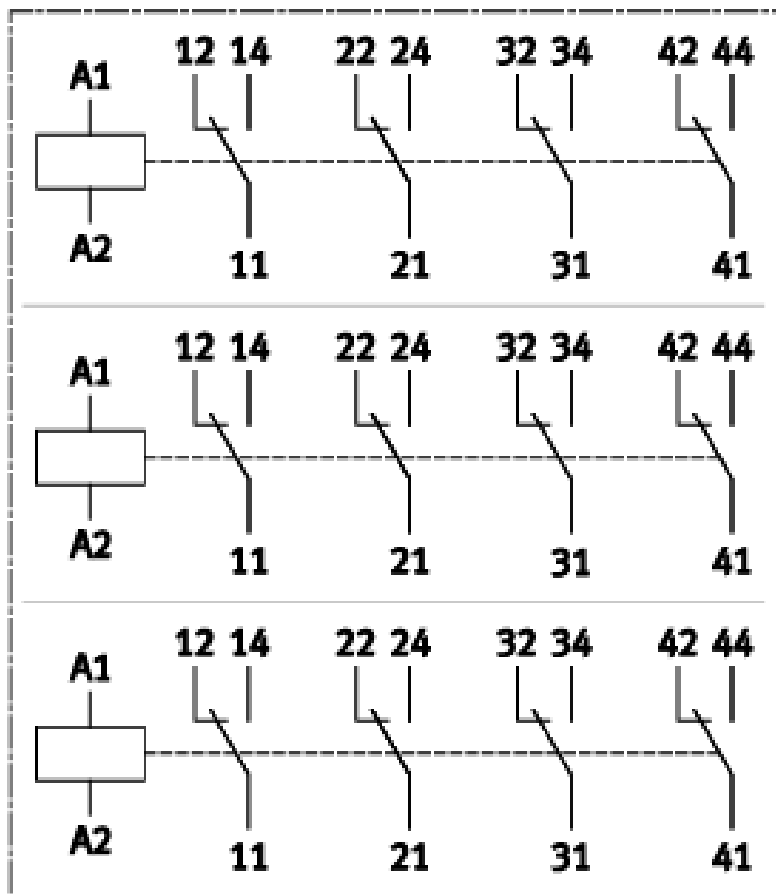

Figure 2.14: A Three-fold Relay module and the standard electrical symbols for a relay coil and its contacts.
- **Symbol:** As shown in Figure 2.14, the symbol for a relay is split into two parts in a circuit diagram: the coil (a rectangle, often labeled K1, K2, etc.) and its associated contacts (switch symbols labeled with the same identifier).